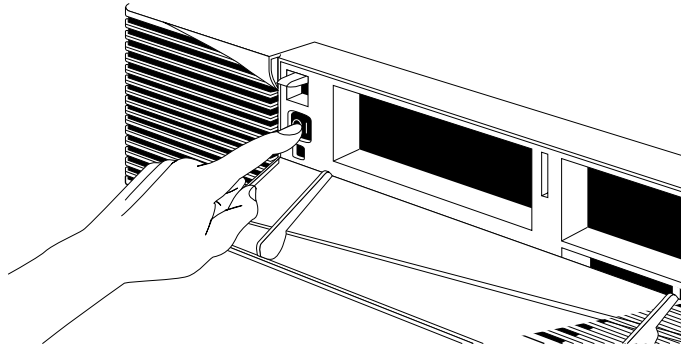

Figure 2-18 Turning on the Indigo² Workstation
- Press the power switch to turn on the system, as shown in Figure 2-18.